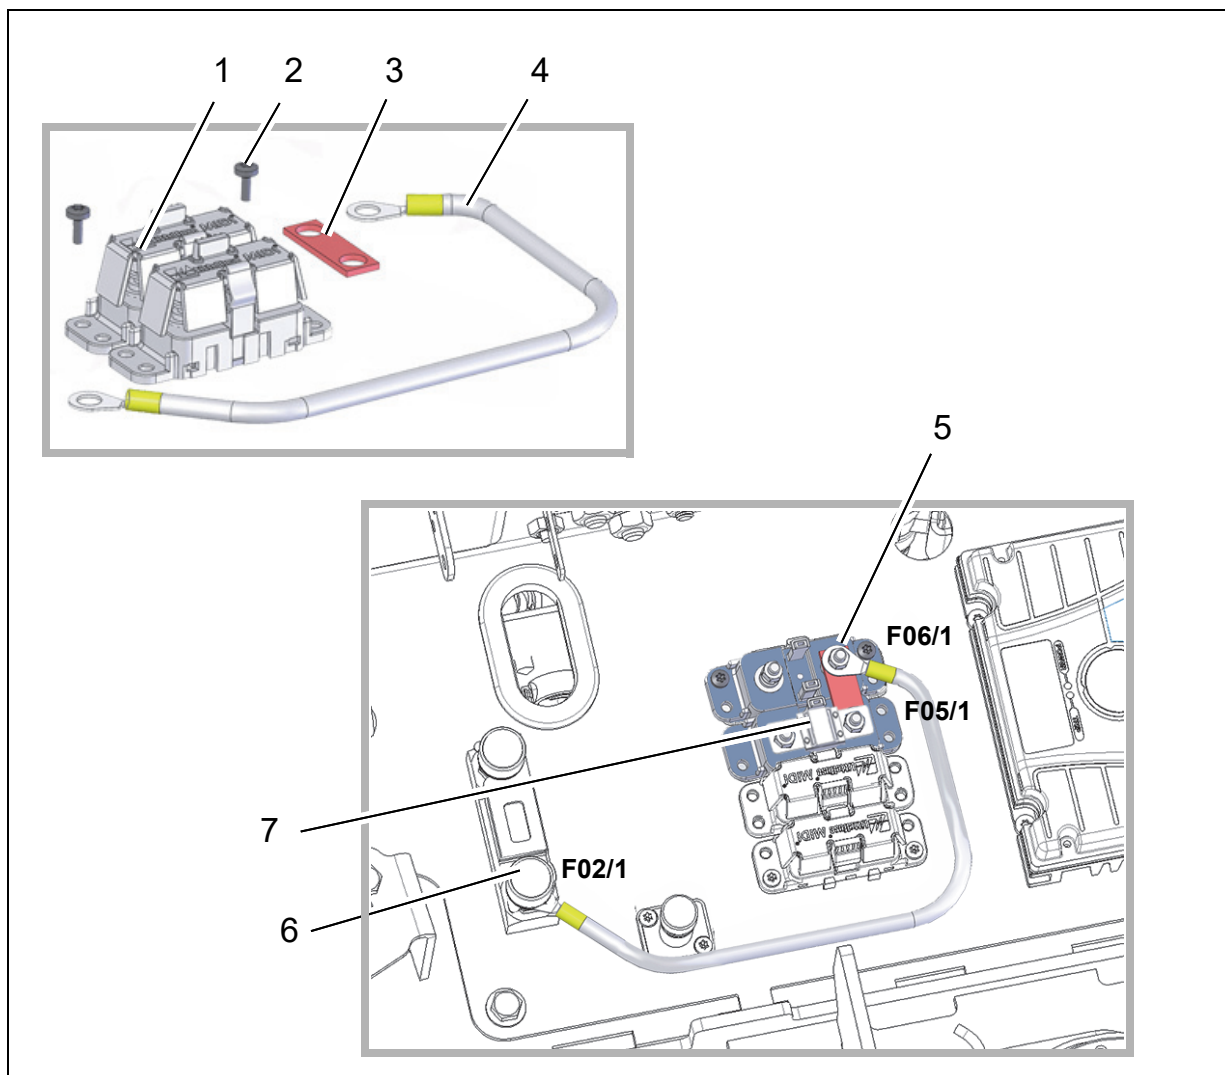

Fig. 4
- 2x fuse holder (Fig. 4/1)
- 2x screws M4x10 (Fig. 4//2)
- 1x conductor rail (Fig. 4//3)
- 1x WS5 cable set (Fig. 4//4)
3. Connect cable set WS5 with connector F06/1 (Fig. 4/5) and connector F02/1 (Fig. 4/6).
Mount the fuse insert to the connector F05 (Fig. 4/7).